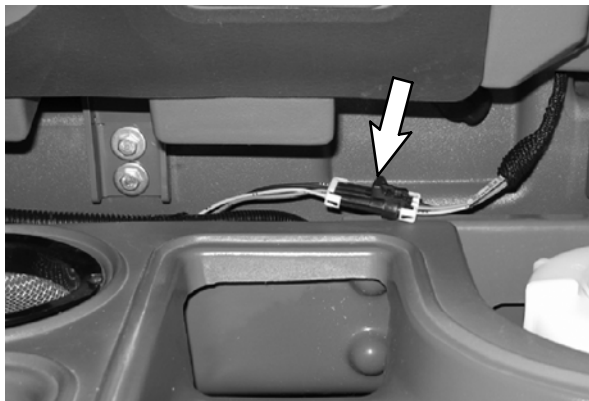
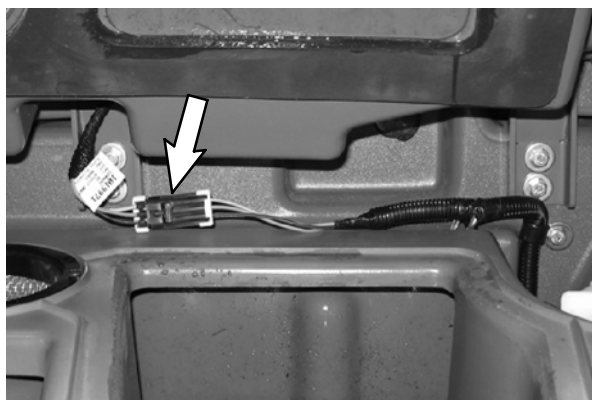
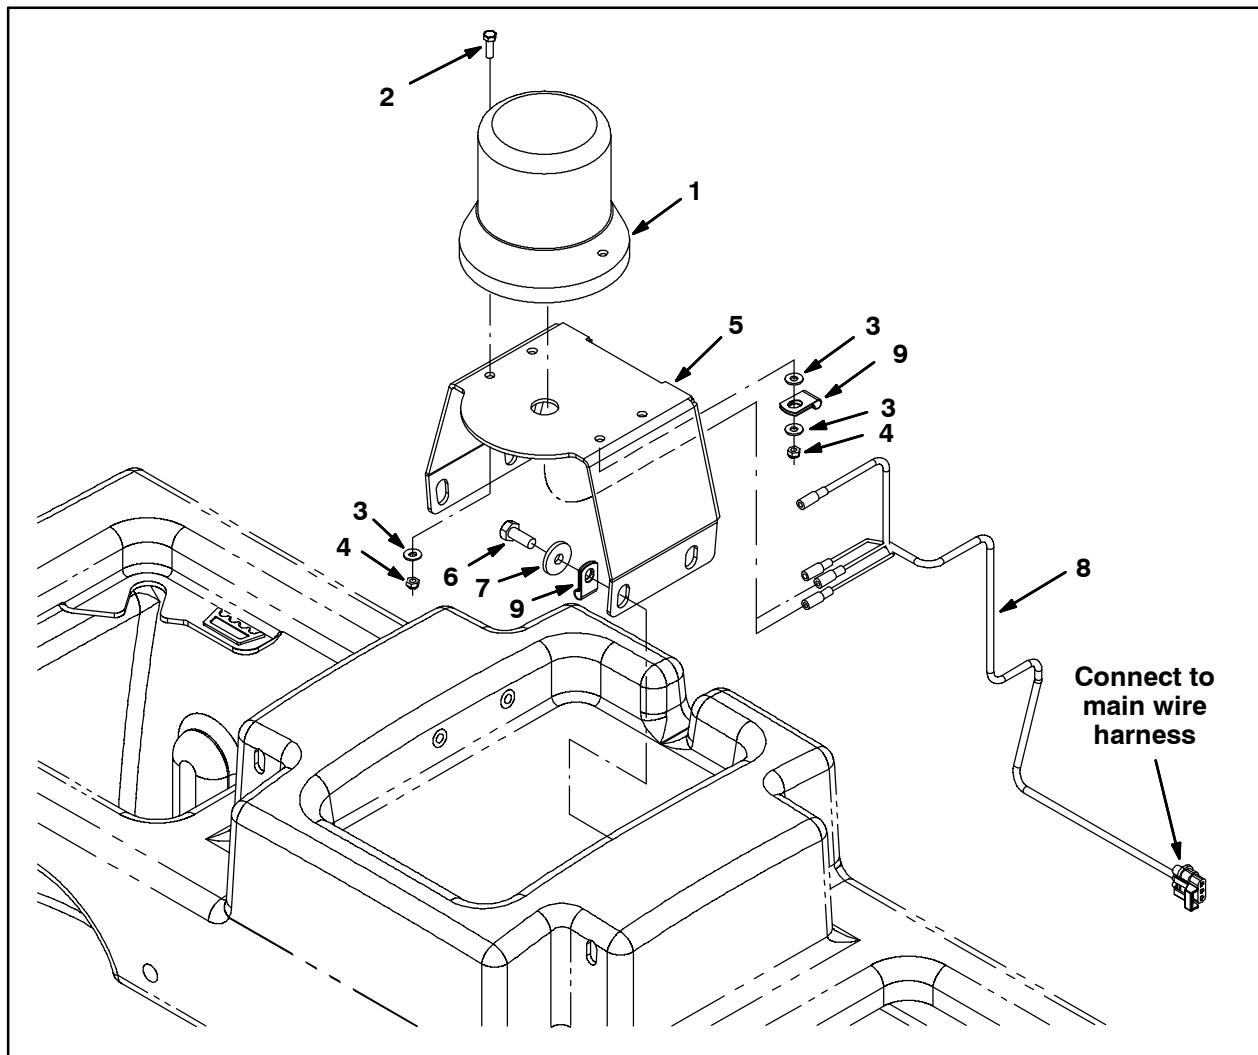
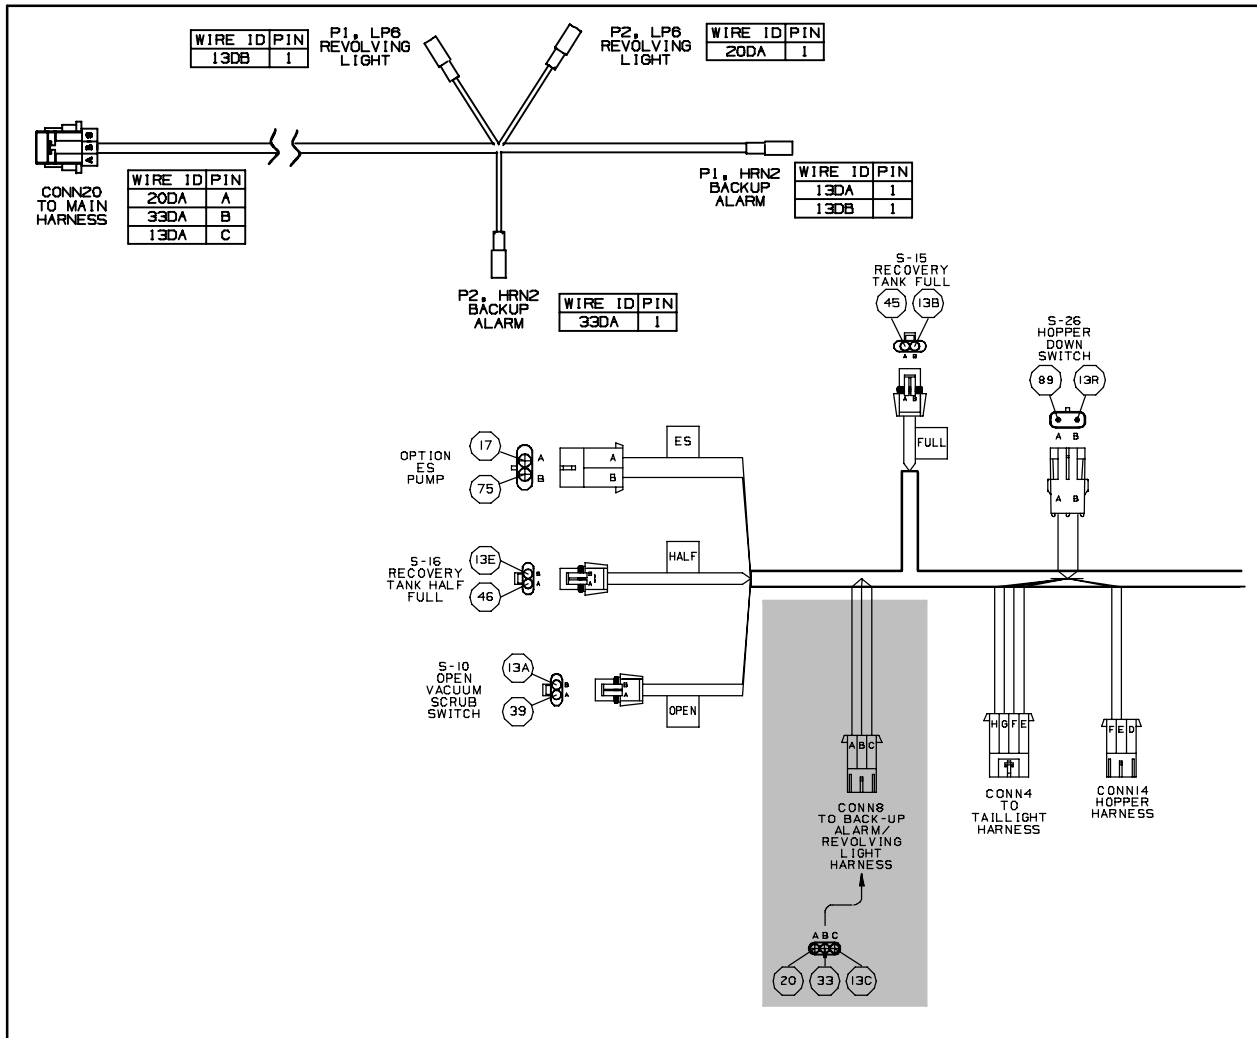

FIG. 3 - M20 Harness Location
FIG. 4 - T20 Harness Location
FIG. 8
FIG. 9
3. Open the recovery tank cover and pull the main wire harness backup alarm and revolving light connector from between the recovery and solution tank. Connect the warning/backup harness (8) to the main wire harness. Refer to Fig. 3 or Fig. 4, and Fig. 9.
7. Connect the warning/backup harness (8) to the light (1). Refer to Fig. 8 and Fig. 9.
9. Slide the main wire harness backup alarm and revolving light connector and attached connector from the warning/backup harness (8) back down between the recovery and solution tank and close the recovery tank cover. Refer to Fig. 3 or Fig. 4.